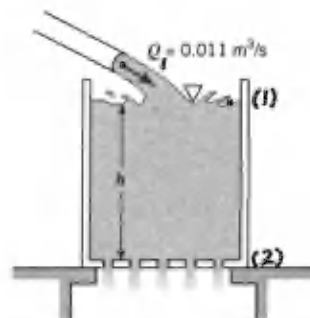

FIGURE P3.7R
3.7R (Bernoulli/continuity) Water flows into a large tank at a rate of  $0.011 \text{ m}^3/\text{s}$  as shown in Fig. P3.7R. The water leaves the tank through 20 holes in the bottom of the tank, each of which produces a stream of 10-mm diameter. Determine the equilibrium height,  $h$ , for steady state operation.